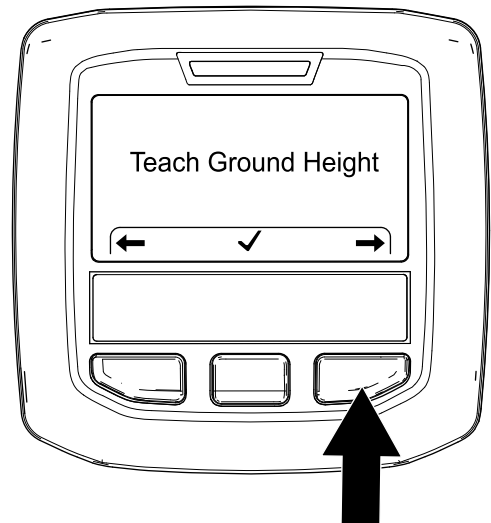

Figure 46
2. Press the right InfoCenter button twice to display the Calibrating the Tine Ground Height screen (Figure 46).